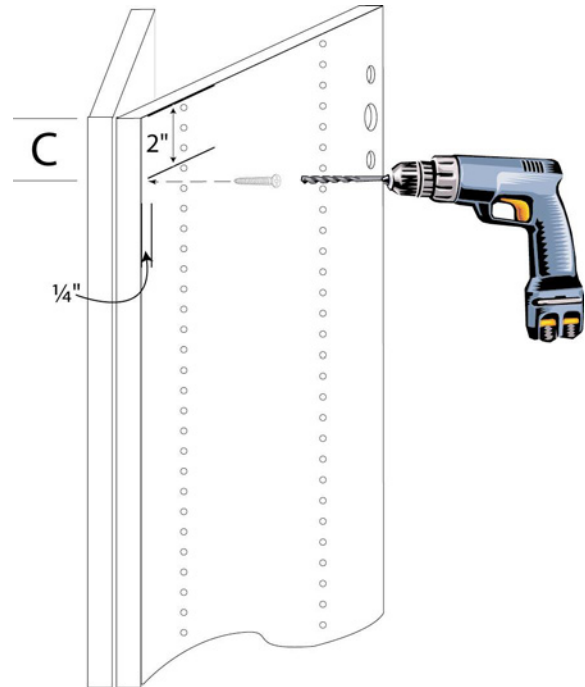

Fig. 6
11. Holding the two partitions together tightly, screw in one (1) #8 x 1-1/4" wood screw through the pre-drilled hole and into the second partition. (See Fig. 6.)